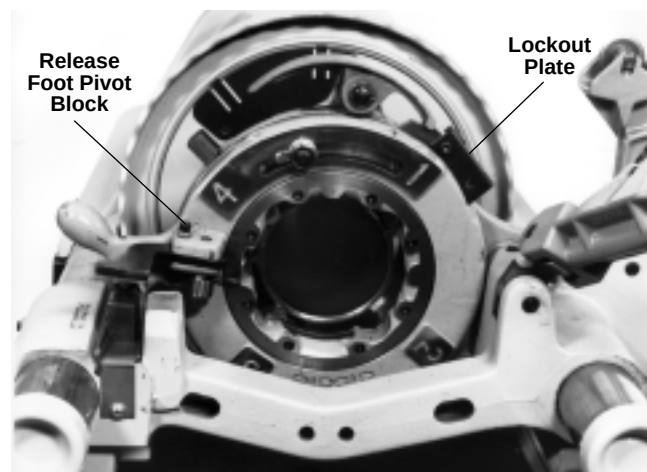

Figure 16 – Positioning Lockout Plate for NPSM/BSPP Straight Threads
7. When desired length of thread has been reached, depress release handle to disengage latch (*Figure 16*). Die head will automatically open.